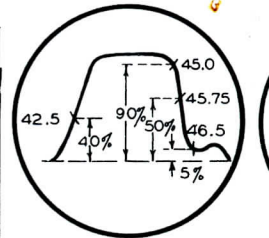

FIG. 4
13.	Remove VHF sweep generator and connect UHF sweep generator to antenna terminals. Check all UHF channels for response similar to Fig. 4. If necessary, SLIGHTLY retouch A5 and A6 to correct any overall tilt. Disconnect generators and bias supplies.